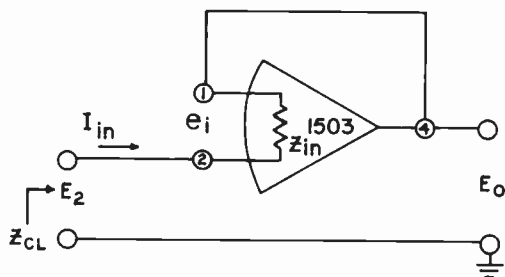

Fig. 49. Voltage follower.
In Fig. 49, the Model 1503 is again shown in the voltage follower circuit with the open loop input impedance, Z_{in} , indicated. For any change in output voltage, ΔE_o , the voltage across pins (1) and (2) must change by